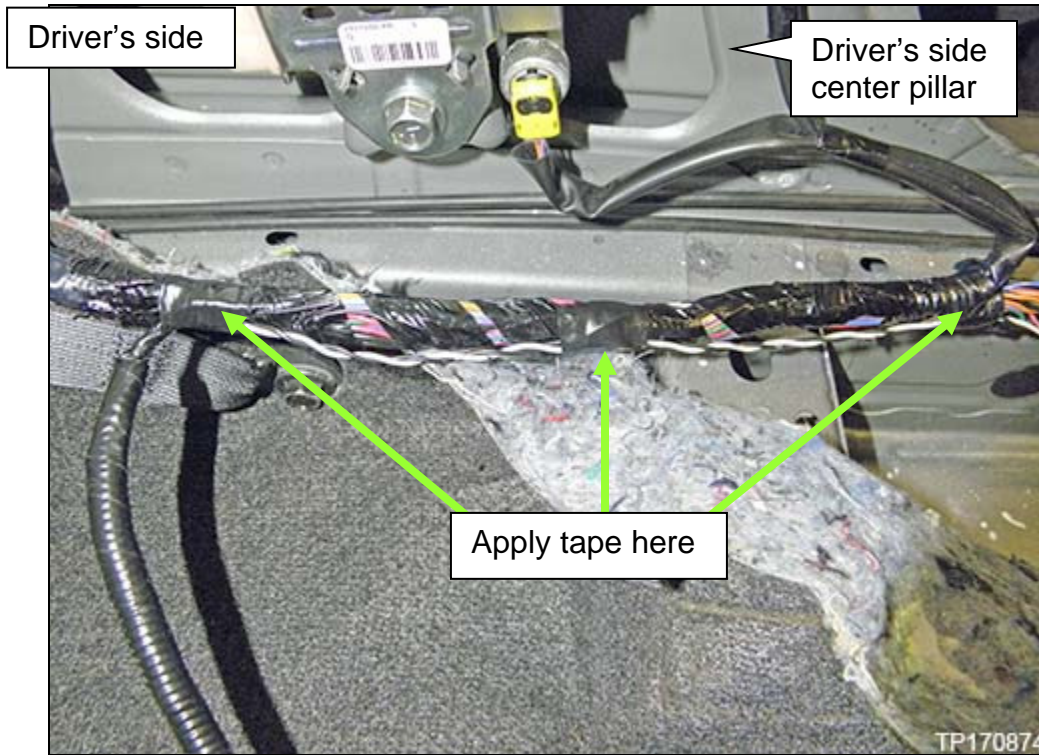

Figure 61
- Attach at the locations shown in Figure 61 and 62.